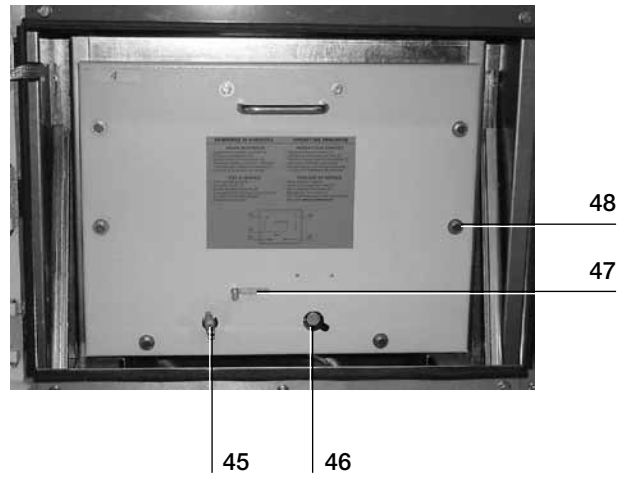
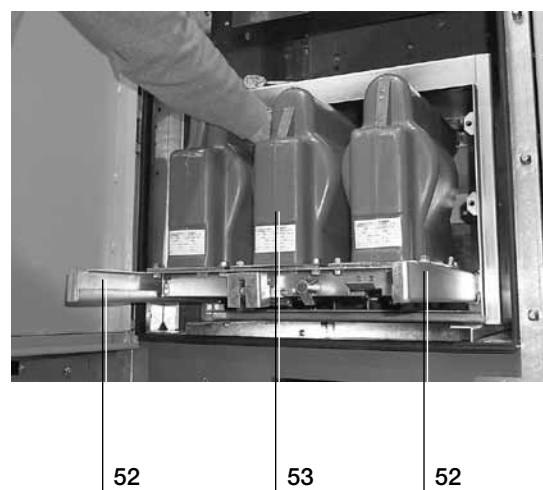

Fig. 11d
Fig. 11f
The voltage transformer unit (fig. 11) consists of an enclosure (fig. 11d) where a withdrawable truck is inserted (fig. 11f), with the transformers on board (53) (fig. 11f) and the relative protection fuses.
The withdrawable truck (fig. 11f) can be fully withdrawn from the unit and allows safe fuse replacement.
- actuator of the door closing bolt (45) (fig. 11d);
- operating seat of the racking in/out lever (46) (fig. 11d);
- pin for unlocking the door closing bolt (47) (fig. 11d);
- door closing screws (48) (fig. 11d);
- voltage transformers (VTs) (53) (fig. 11f);
- left and right supplementary guides (52) (fig. 11f).